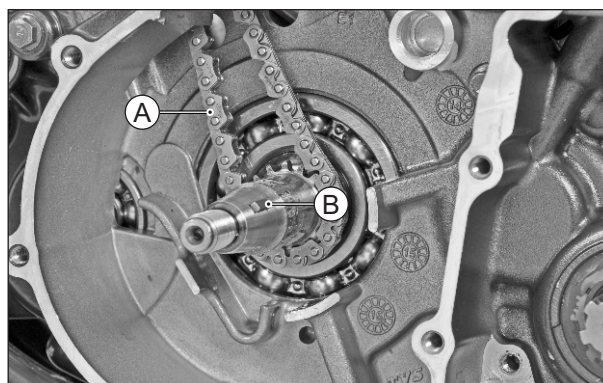

Fig. 3.133
- Take out the cam chain (A) and woodruff key (B) from the crankshaft complete. (Fig. 3.133)